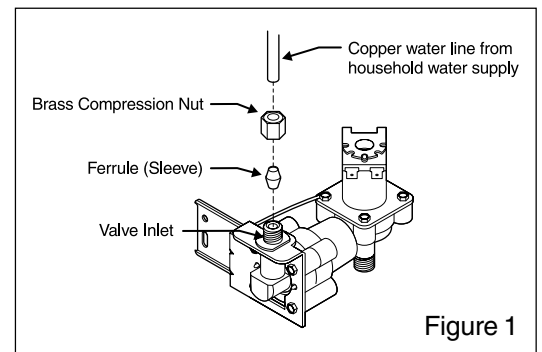

Figure 1
4. Slide brass compression nut, then ferrule (sleeve), onto water supply line, as shown in Figure 1.